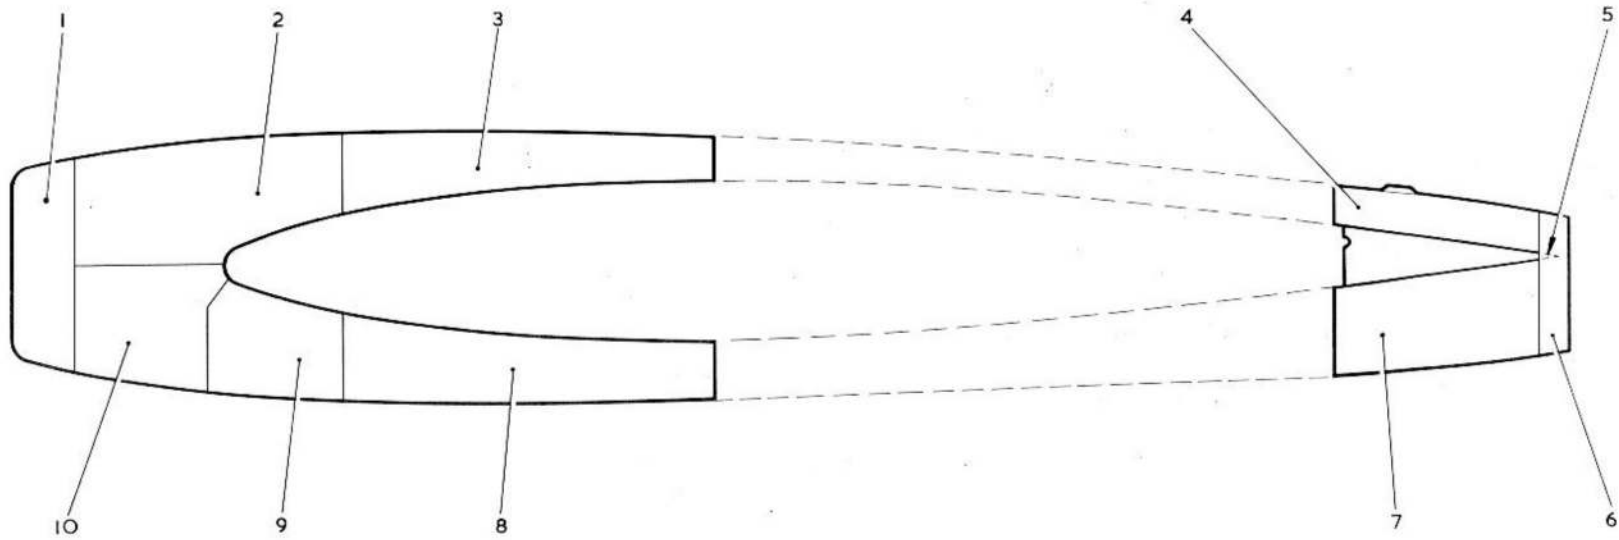

FIG . 902 ENGINE COWLING SKINNING
2. The figure numbers of all illustrations and repair schemes in this appendix range from 901 upwards to distinguish them from similar illustrations and repair schemes peculiar to other nacelles on other makes of aircraft. The negligible damage key to each of the figures 902 to 905 inclusive contains a column headed 'Repair Fig.No.' The figure numbers quoted are those from the basic chapter which caters for
## KEY TO FIG. 902 (ENGINE COWLING SKINNING)